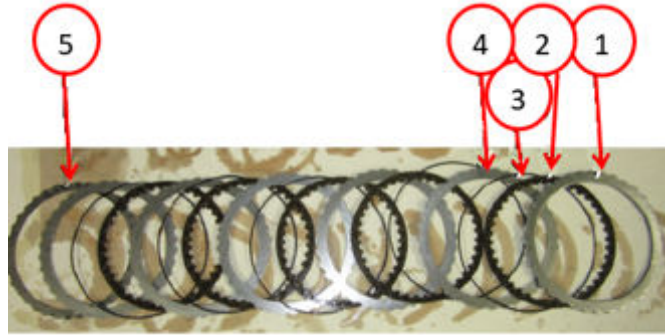

Fig. 32
- 51. ****The clutch B, dependent on transmission Julian Date, may contain wave springs that sit around each fiber. There will be five friction plates (discs), five wave springs, five steel plates, one cover plate, one snap ring, and one wave plate (last plate far left in figure) Fig. 32.****